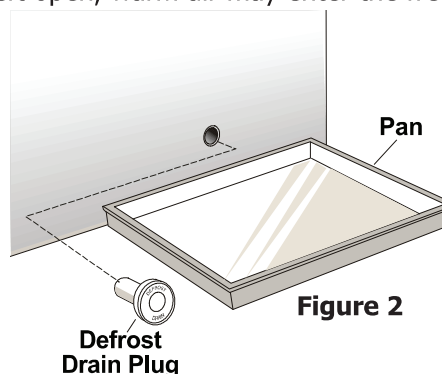
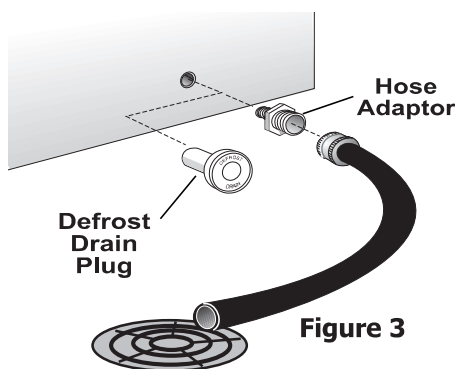

Figure 2
Figure 3
- Place a shallow pan or the Divider/Drain Pan (if equipped) beneath the drain outlet. Pull out the outside drain plug (see figure 2). A $\frac{1}{2}$ inch garden hose adapter can be used to drain the freezer directly into a floor drain (see figure 3). If your model is not equipped with an adapter, one can be purchased at most hardware stores.